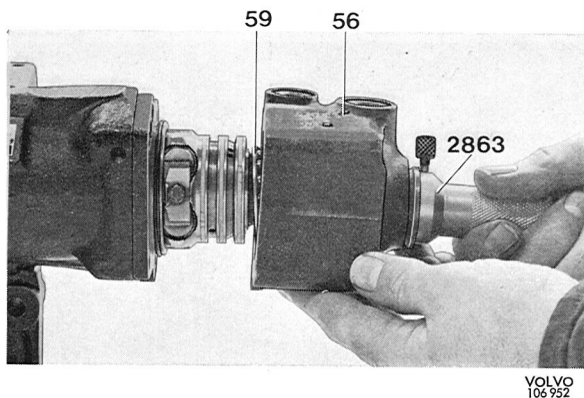

Fig. 6-99. Installing valve housing
11. Tension out the seal (54) with tool 2863. Place the bearing (59) in position. Install the valve housing (56), see Fig. 6-99. The tightening torque for the bolts (50 and 52) is 34 Nm (25 lbft).